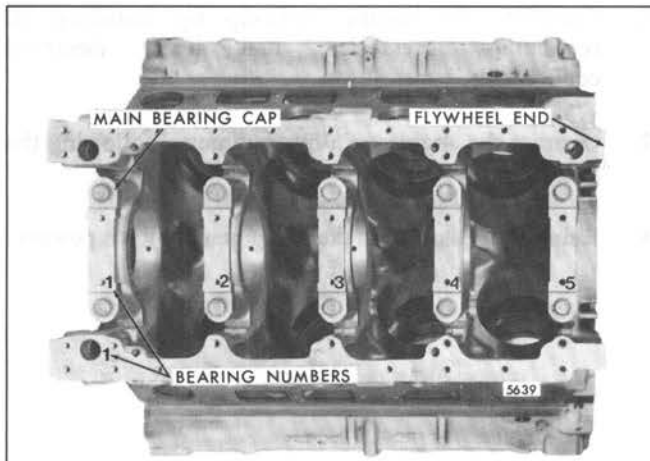

Fig. 8 – Cylinder Block Markings
as established at the time of manufacture. The No. 1 main bearing cap is always located at the end opposite the flywheel end of the cylinder block (Fig. 8). Lubricate the bolt threads and bolt head contact areas with a small quantity of International Compound No. 2, or equivalent. Main bearing cap bolts are especially designed for this purpose and must not be replaced by ordinary bolts. Then, install and tighten the 11/16"–11 bolts to 230–240 lb–ft (312–325 Nm) torque. When making this check, do not install the main bearing cap stabilizers. The specified bore diameter is 4.812" to 4.813". If the bores do not fall within these limits, the cylinder block must be rejected.
2. If a new service replacement block is used, stamp the engine serial number and model number on the right-hand side of the cylinder block. Also, stamp the position numbers on the main bearing caps (Fig. 8) and the position of the No. 1 bearing on the oil pan mounting flange of the block.